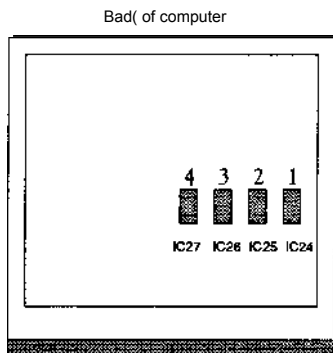

Figure 3: Locating the ROM sockets
Position the computer so that you are facing the front panel, looking down on the main circuit board. The ROM sockets will then be located halfway along the right-hand side. The sockets are labelled IC24, IC25, 1026 and 1C27 (see Figure 3).
- 3 Locate ROM chip socket 1C24 (see Figure 3).